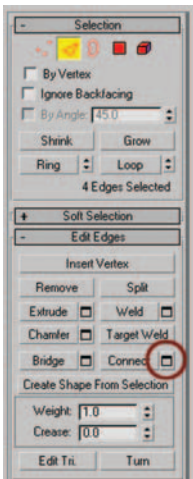

Figure 6.11
7. With the edge ring still selected, click on the Settings box next to the Connect button on the right of your screen. Figure 6.11 highlights the button.